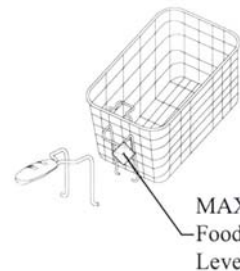

Fig. 1
- Use basket handle to remove the frying basket. Always make sure the basket handle is securely attached to the basket. To attach the handle to the frying basket, insert the metal part of the handle inside the metal bracket on the frying basket. (Fig. 1)